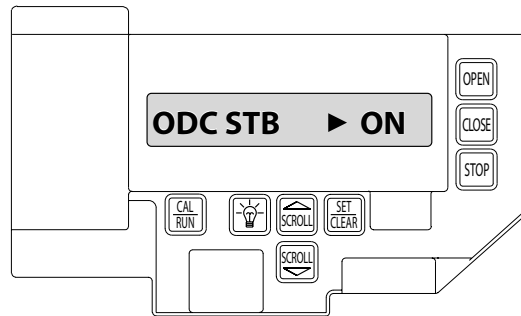

FIG. 9
2. Use the SCROLL Key to scroll through the menu until ODC STB>OFF is displayed. Press SET/CLEAR key to toggle to ODC STB > ON. FIG. 9.